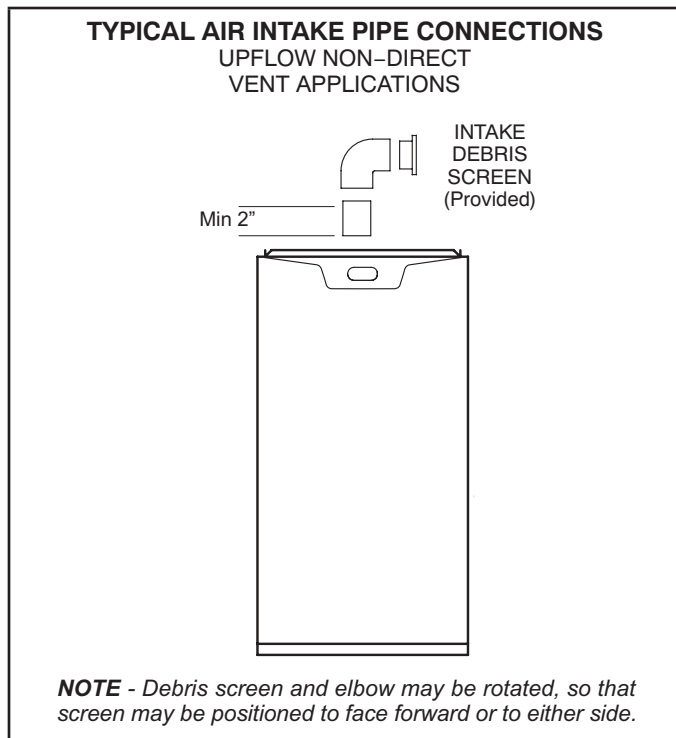
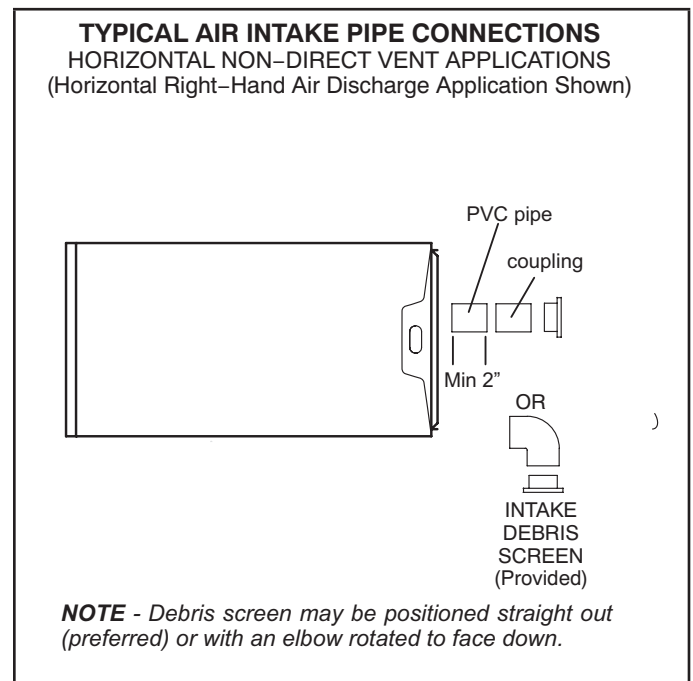

FIGURE 20
FIGURE 21
- 1 - Use field-provided materials and the factory-provided air intake screen to route the intake piping as shown in FIGURE 20 and FIGURE 21. Maintain a minimum clearance of 3" (76mm) around the air intake opening. The air intake opening (with the protective screen) should always be directed forward or to either side in the upflow position, and either straight out or downward in the horizontal position.